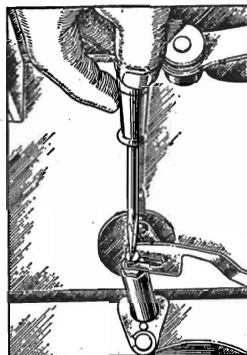

Figure 12—Adjusting height of elevator shaft
- (b) Improper adjustment of elevator shaft. The elevator shafts should rise to such a height as to give $\frac{1}{16}$ " clearance between the lowest surface of the elevator pad bottom and the top of the empty magazine. This adjustment can be made by means of the screw and lock nut as shown in Figure 12.
(8) FAILURE TO TRIP ON ECCENTRIC GROOVE
Six contactors are used for connecting the motor so that it rotates in the proper direction. To make this adjustment or replacement, a special offset screw driver will be required unless the unit is to be removed from the base. This is shown in Figure 12.